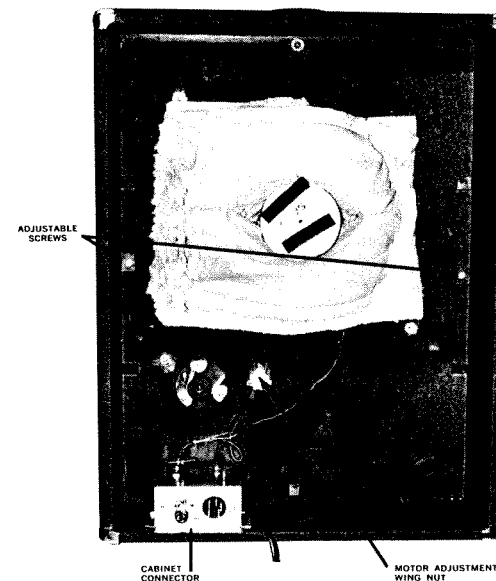

FIGURE 3
Tremolo Unit Removal (See Fig. 3)
1. Raise the mounting board, with rotor and motors installed, to the upright position, as it would be in the speaker cabinet. (See Fig. 3).